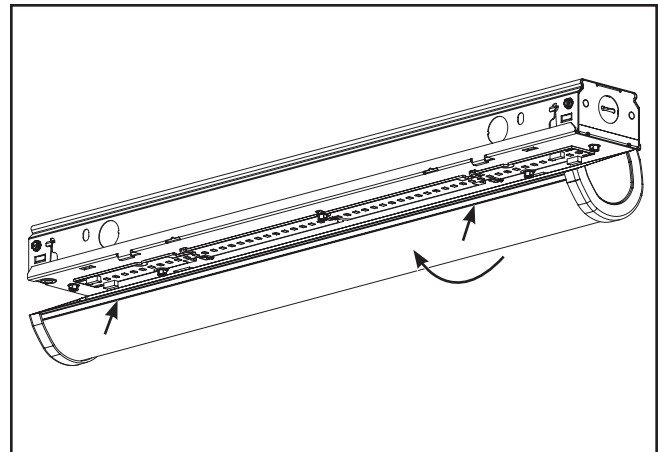

Figure 3.
3. Pivot the unsecured side of the lens toward the channel cover and squeeze it slightly in the areas where the lens clips are present, allowing the lip to be located beneath the clip. (Figure 3.)